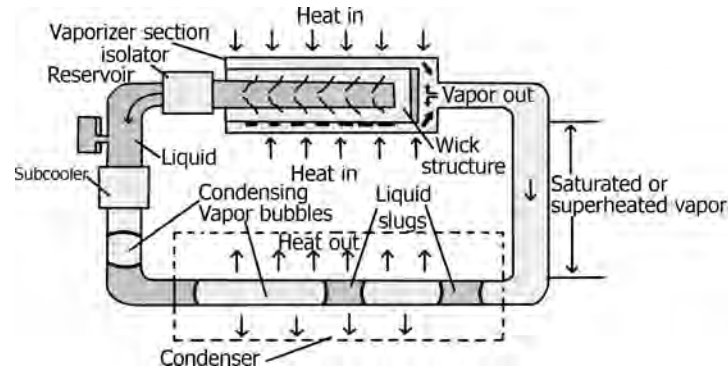

FIGURE 13.23 Capillary pumped looped heat pipe.
- **Capillary Pumped Loop Heat Pipe (Figure 13.23):** For systems where heat fluxes are very high or the heat from the heat source needs to be moved far away. In the looped heat pipe, vapor travels around in a loop and condenses and returns to the vaporizer. Used in electronics cooling.